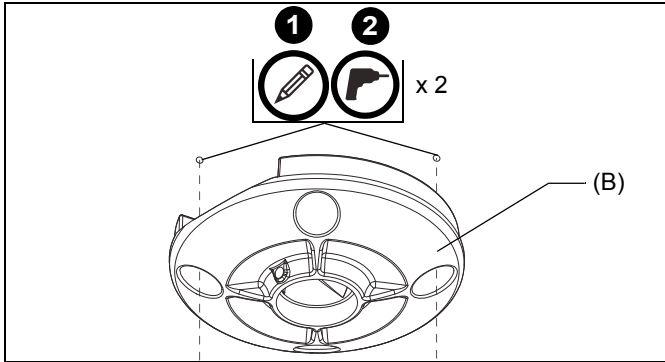

Figure 4
- Using the ceiling plate (B) as a guide, mark mounting hole locations (two minimum) on ceiling. (See Figure 4)
- Drill two (minimum) pilot holes as follows: (See Figure 4)